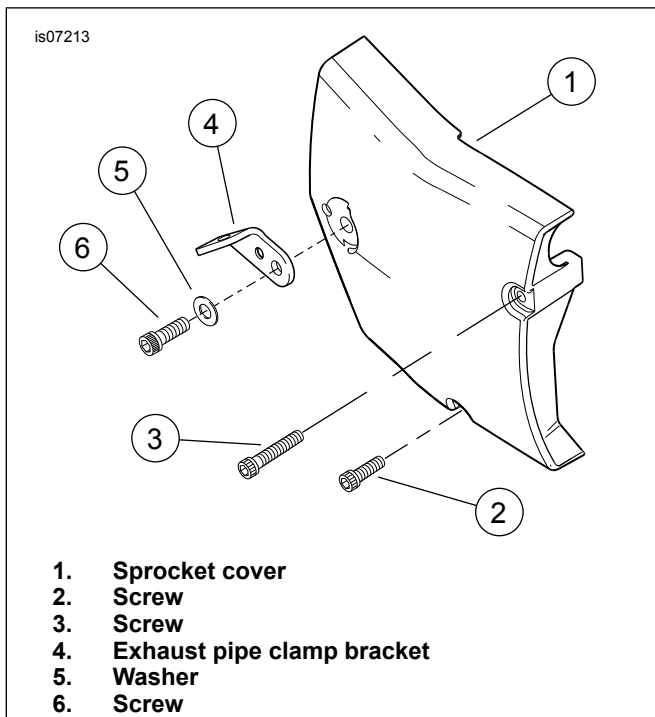

Figure 3. Sprocket cover
5. See Figure 3. Remove screws (2, 3, 6), washer (5) and exhaust pipe clamp bracket (4) securing sprocket cover (1). Remove sprocket cover.
12. See Figure 3. Replace the sprocket cover. Install exhaust pipe clamp bracket (4), washer (5) and screws (2, 3, 6). Tighten screw (6) to 40.7–44.8 N·m (30–33 ft-lbs). Tighten screws (2, 3) to 9–13.6 N·m (80–120 in-lbs).